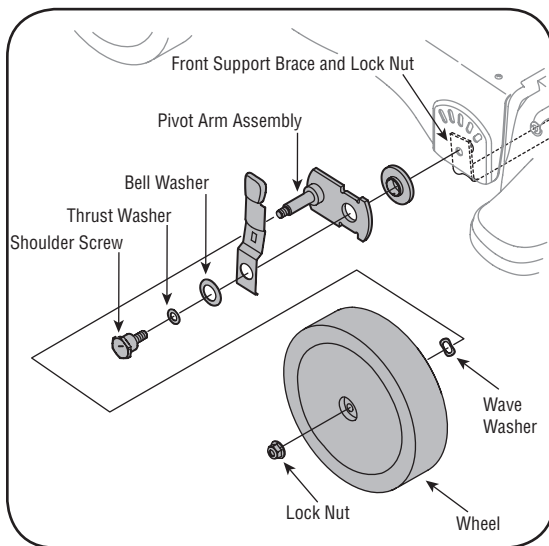

Figure 5-4
4. Remove the flange lock nuts, front wheels, and wave washers that attach to the pivot arm assemblies. See Figure 5-4.